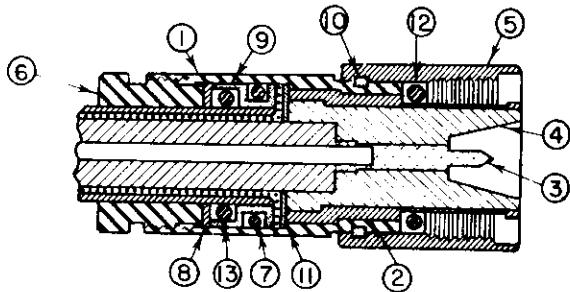

Figure 2
- a. Pass the indicated parts over the cable jacket from the depressed end of the cable in the following order (figure 2):
- (1) Nut, piece 6
- (2) Washer, piece 8
- (3) O'ring, piece 13
- (4) O-ring retainer, piece 9 with O-ring, piece 7 resting in the groove provided.
With the selector switch in the DC position, the red lead of the test cable inserted into the 4V jack and the black lead inserted into the \pm VOLTS jack, the meter will have a full scale deflection when 4 volts is impressed across it and the circuit will draw 1 milliamper of current. Figure 2 shows the connections to be made on the front panel of the meter and the internal circuit when the above cable connections have been made. Since the circuit will draw 1 ma, it alone may be used in place of the TS-80/U. With less than 0.6 ma flowing in the circuit, the sensitivity of the TS-297/U drops so that the readings are below 25 on the 0-100 scale. Therefore the 4V jack connection should be limited to readings above 0.6 ma.